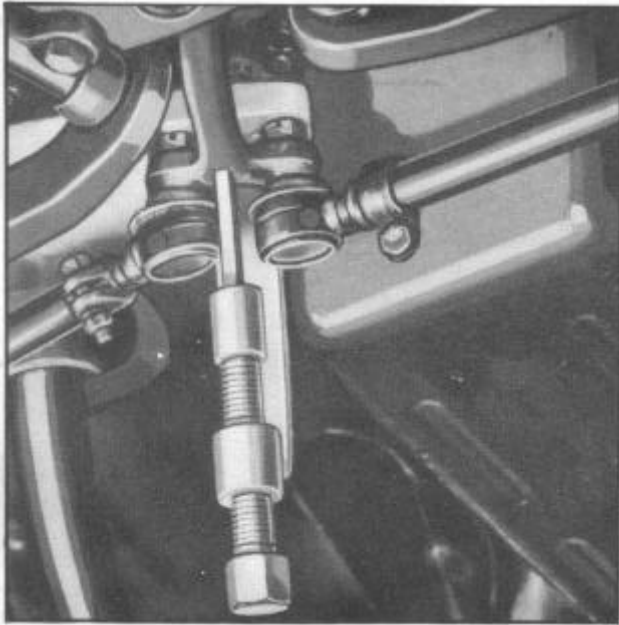

Figure 17--Steering Arm Ball
2. Remove tie rod ends (8) from steering center arm (28) using tool J-624-H--See Figure 17.
3. Remove bolt (30) holding steering center arm to frame cross member.
2. Use tool HM-844-C to remove outer end. 3. Use tool J-624-H to remove inner end. See Figure 17.